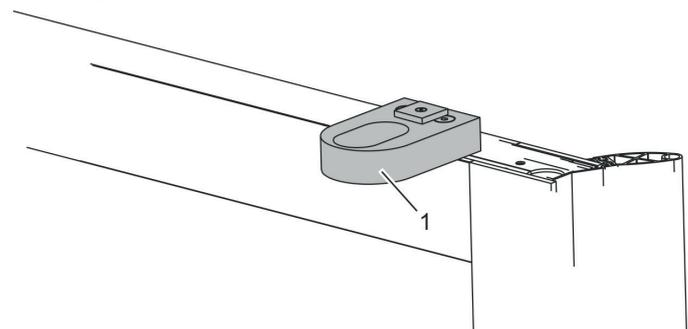

Fig. 117 Bristles protruding from locking plate
2. Cut off bristles protruding from locking plate (Fig. 117/1).